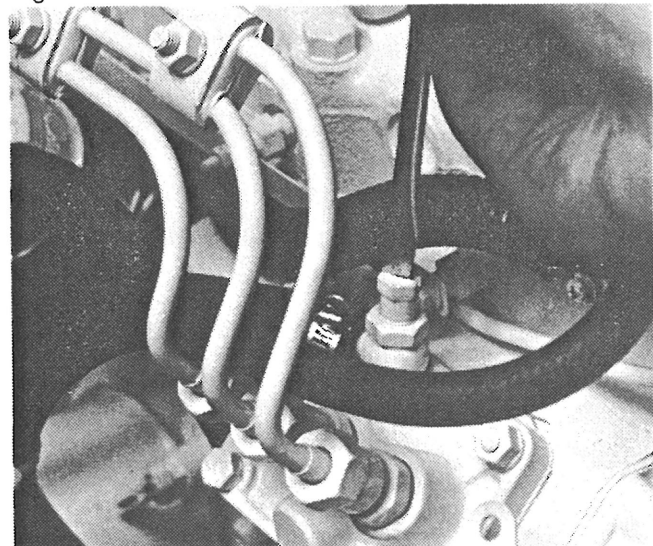
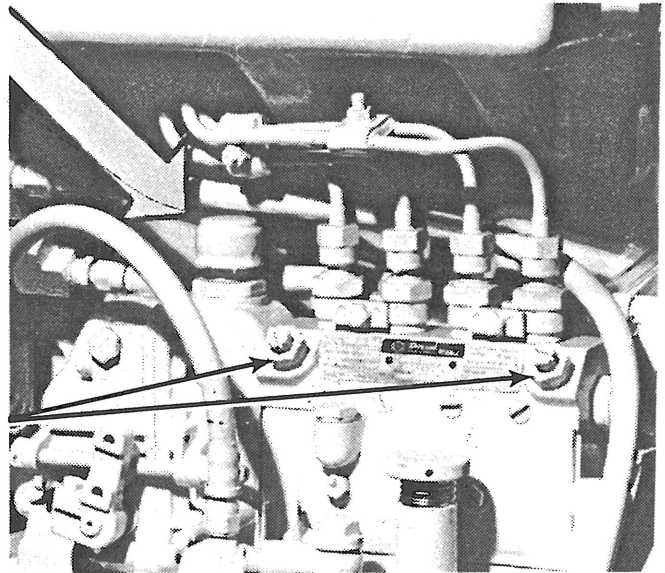

Figure 48 - Bleed cock, L - M 753
Figure 51 - Injection pump, 854A
- e. For 753 open bleed cock (figure 48). All other units see figure 51, small pointers.
- Remove the oil filler cap located on the injection pump (see figure 51, large arrow).